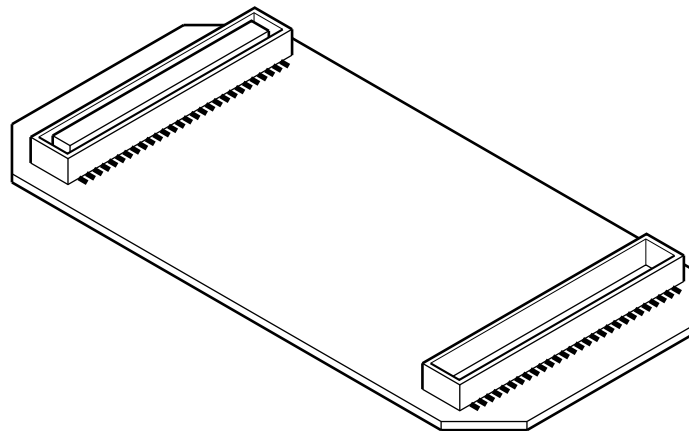

Figure 3: Extension Cable
5. Extension Cable part o G5E T C 001 figure 3